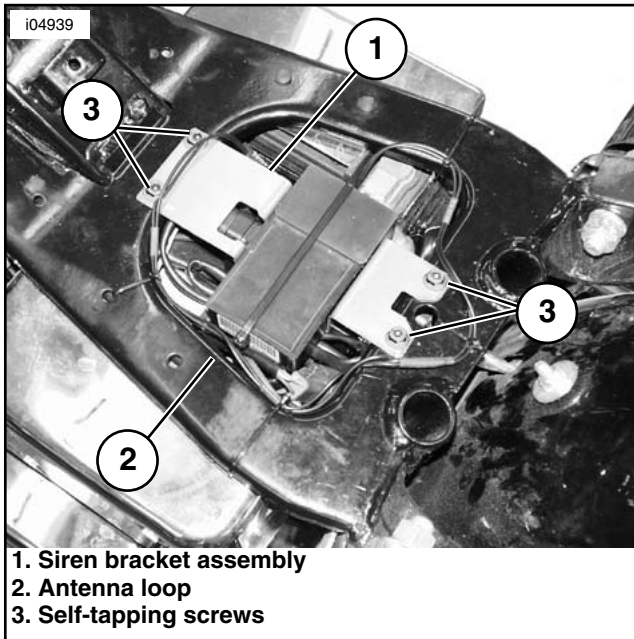

Figure 6. Install Siren Bracket (2003 and earlier)
16. See Figure 6. Fit the siren bracket assembly (1) over the four holes in the frame pan. Make sure the antenna loop (2) is not pinched under the bracket. Secure the bracket using the four self-tapping screws (3) saved earlier. Tighten the screws to 5-8 ft-lbs (8-11 Nm).